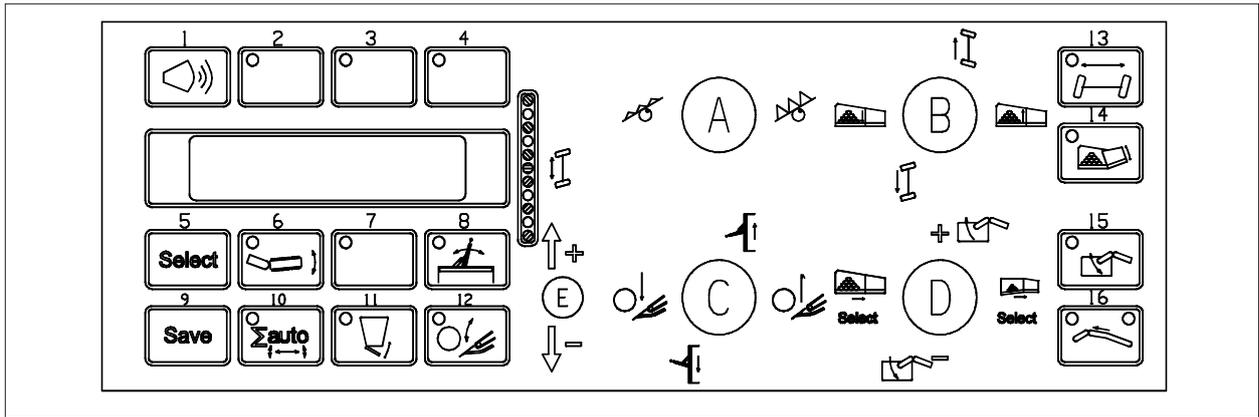

Fig. 35-1
The lane adjustment is hydraulically operated with a joystick at the control panel (Fig. 35-1). The diabolo rollers must run in the middle of the ridges.
The wheel steering is controlled with joystick B on the panel (Fig. 35-1). The wheels' position is displayed by the indicator in front of the harvester (Fig. 35-4) or in the display of the control panel (only when automatic wheel centre positioning is fitted).
This function is activated by key 13 on the control panel (Fig. 35-1) The auto mode is deactivated by a touch on the relevant key, or by using the relevant joystick.
The position is indicated by the light diodes on the panel (Fig. 35-1).